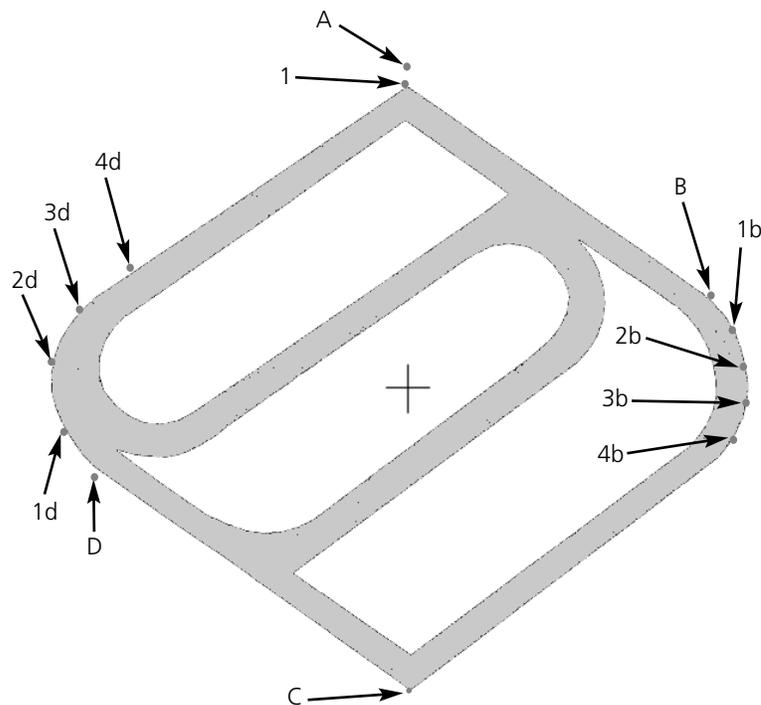

Figure 3-66
2. Move the tablet cursor to the upper middle area of the design and enter a Mk1 in that location (see item 1 in Figure 3-66).
1. Enter a Mk1 in the very top of the design shown as item A in Figure 3-66.